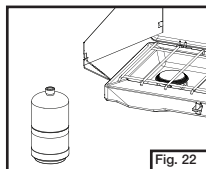

Fig. 22
- For storage or transport, the regulator may be located below the pan support. (Fig. 22)